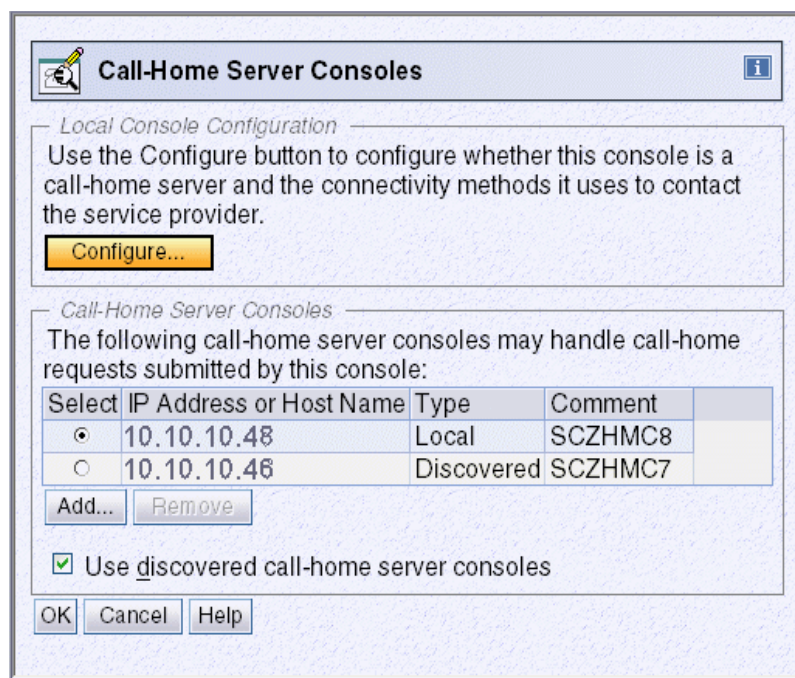

Figure 1-57 Call-Home Server Consoles
1. Select the **Service Management** task on the Hardware Management Console application. Click the **Customize Outbound Connectivity** option available in the Work pane. Figure 1-57 shows the Call-Home Server Consoles task.